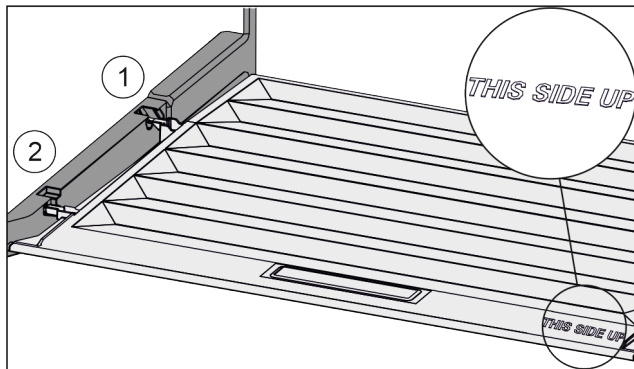

Fig. 65
- ▶ Insert the lip of the cover over the opening of the rear bracket Fig. 65 (1) and click into place Fig. 65 (2).